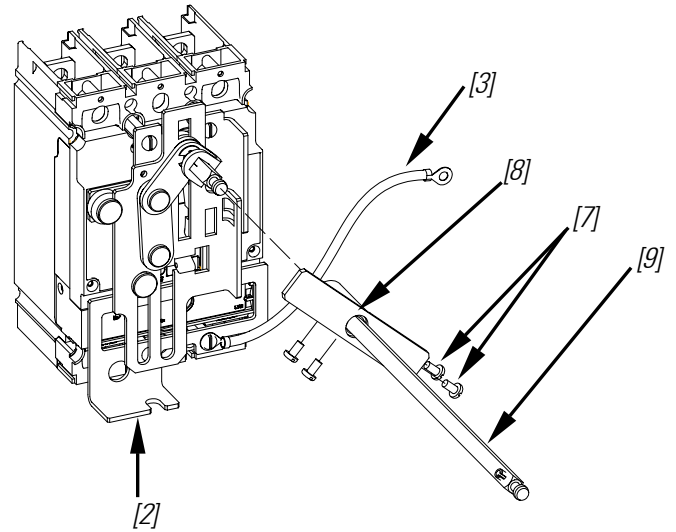

Figure 7. Installing the extension shaft and coupler assembly.
- d. Place the shaft [9] assembled with coupler [8] on to the crank of the base-crank assembly [2] and secure with #8-32 x 5/16" screws [7], as illustrated in Figure 7. Tighten the screws to 16 - 20 in-lb.